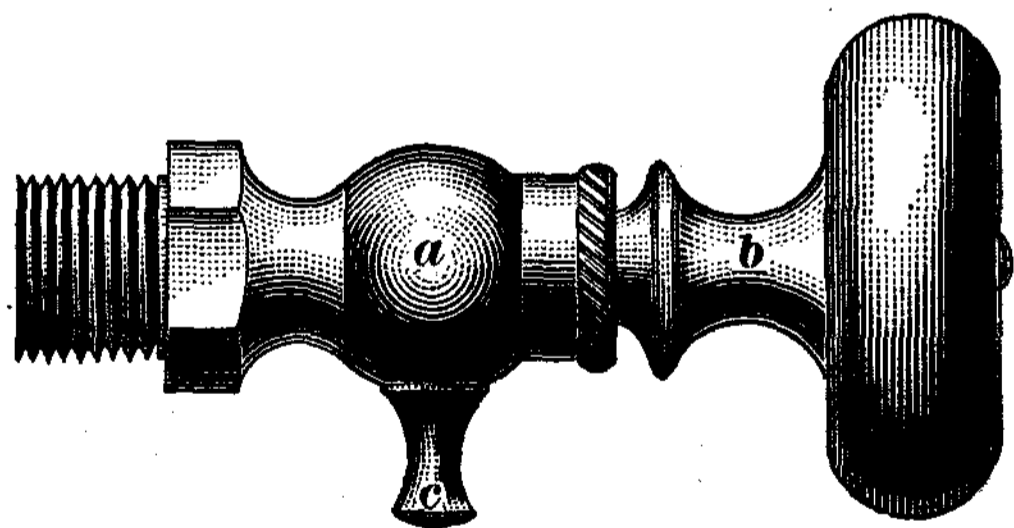

FIG. 10
19. The gauge-cocks most commonly used are of the compression type. Such a cock, with a wooden hand wheel, is shown in Fig. 10. It consists of a brass body *a* having a threaded shank for attaching it to the boiler or water column. The seat within the body is closed by the end of the threaded valve stem *b*. The steam or water issues from the nozzle *c* when the cock is open. The compression gauge-cock can be obtained with a lever handle in the form of a crank, and such